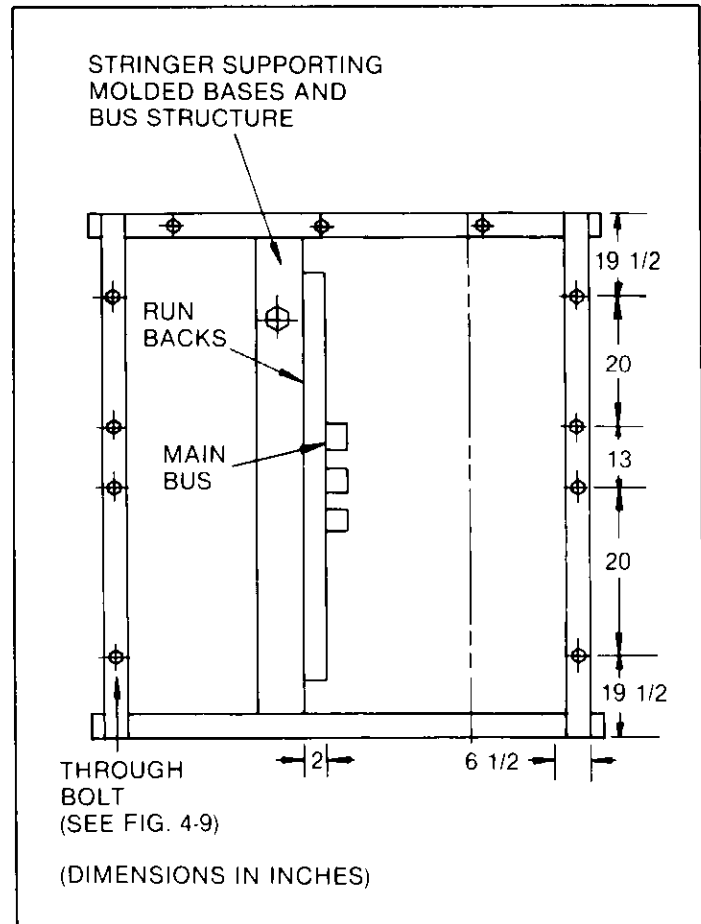

Fig. 4-7. Location of through-bolts
3. FASTEN SECTIONS TOGETHER—After placement of the equipment and installing the anchor bolts loosely, the various shipping sections must be rigidly fastened together. Through-bolts fasten each section of the switchgear equipment to the adjacent section. Figure 4-7 shows the location of the through-bolts.